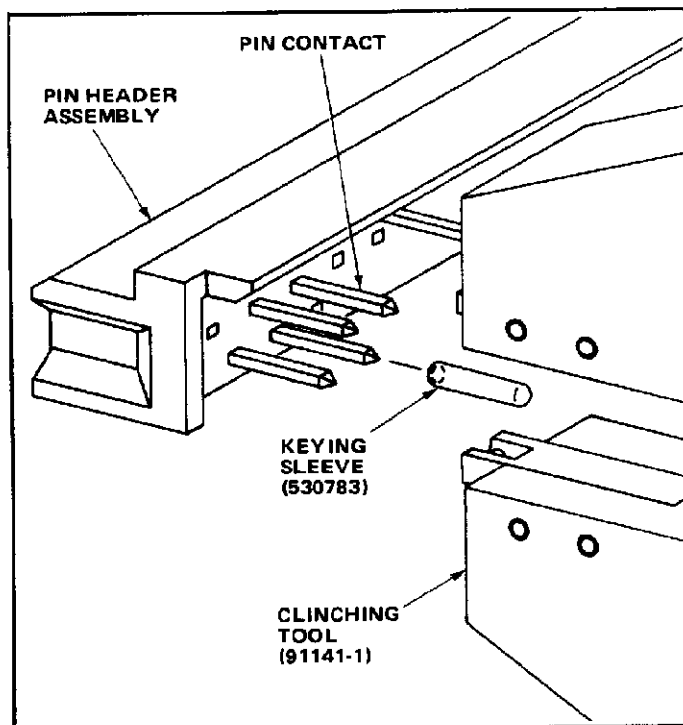

Fig. 6
A. Keying Sleeve 530783 (see Figure 6)